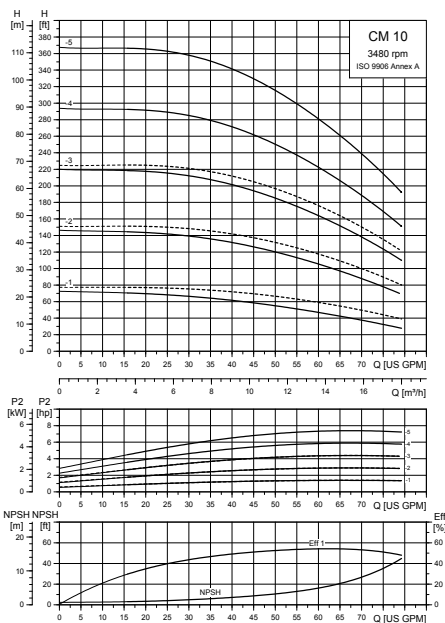

Fig. 23 Example of a curve chart
- the duty point of the pump (see fig. 23)